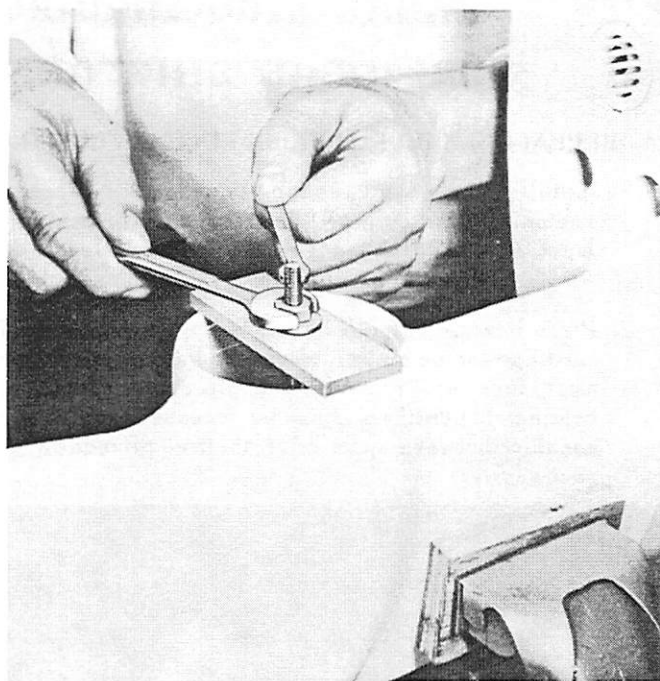

Figure 8. Removing Cup from Gear Housing
8. Remove bearing cup from gear housing with service tool C-91-31228A1. (Figure 8)